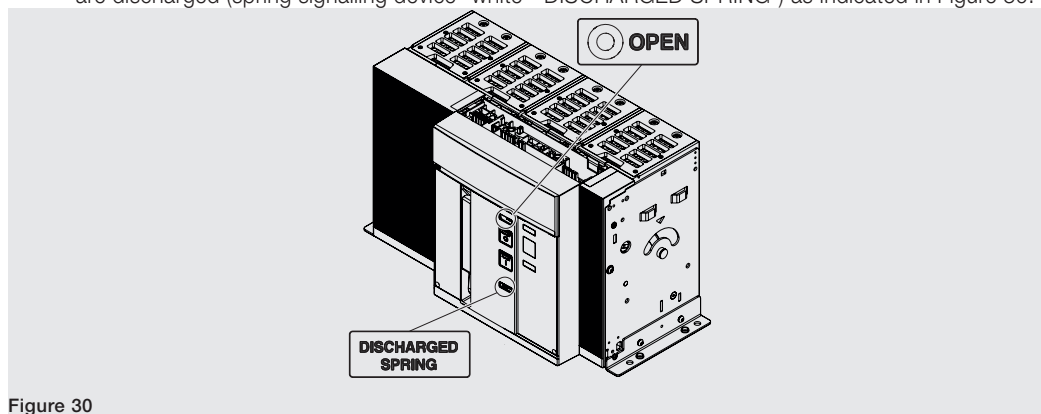

Figure 30
7. Check that the circuit-breaker is open (open / closed indicator "O - OPEN"), and check that the springs are discharged (spring signalling device "white - DISCHARGED SPRING") as indicated in Figure 30.